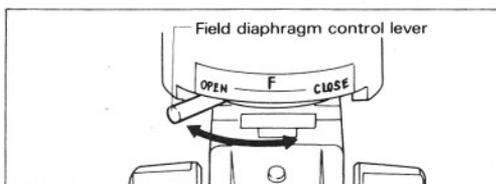

Fig. 38
- To change the opening of the viewfield diaphragm manipulate its control lever. In the position [ OPEN ] it will be fully opened, and in the position [ CLOSE ], closed to the smallest opening. (Fig. 38)